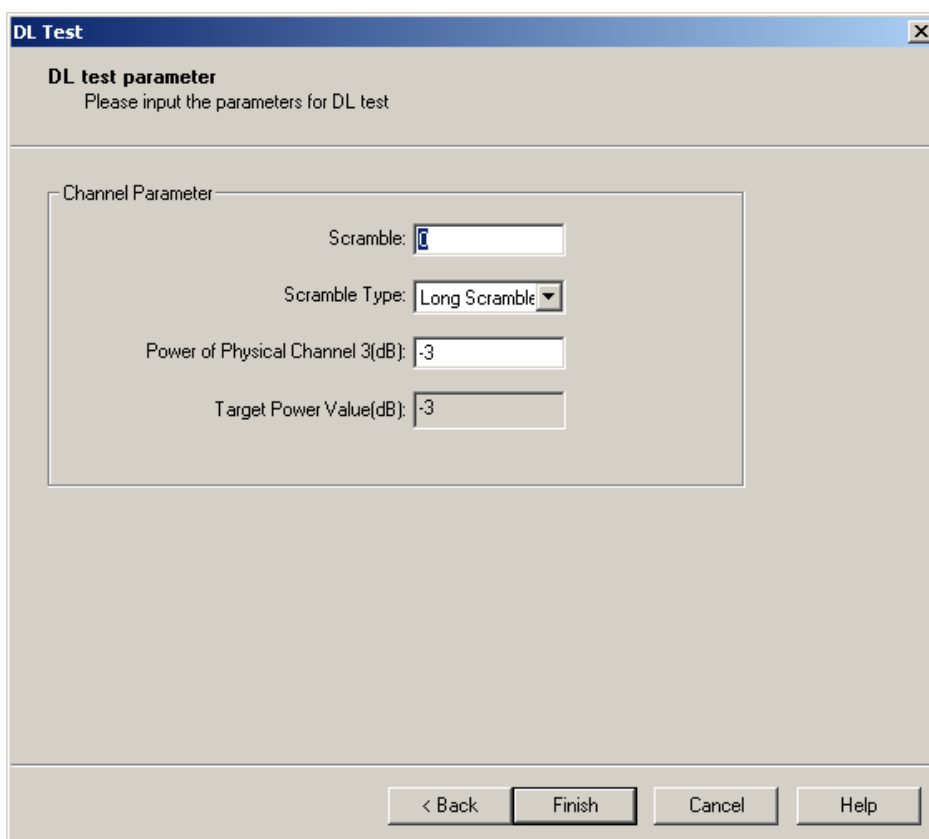

Figure 11-11 DL test parameter dialog box (power control step or dynamic range test)
- 7) Click **Next** in the dialog box. The **DL test parameter** dialog box opens up as shown in Figure 11-11.